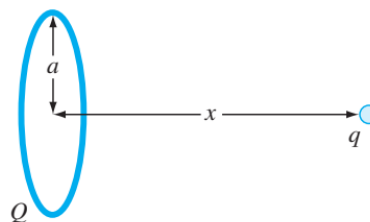

FIGURE P5.17
5.17 A total charge Q is uniformly distributed around a ring-shaped conductor with radius a . A charge q is located at a distance x from the center of the ring (Fig. P5.17). The force exerted on the charge by the ring is given by